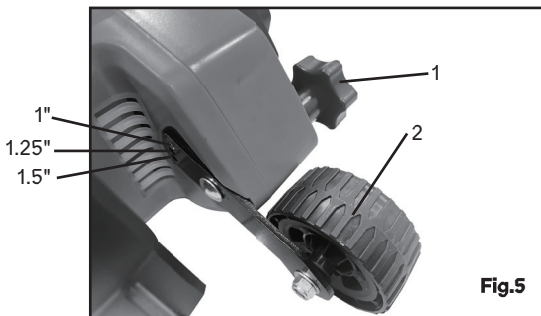

Fig.5
2. Adjust the Cutting Depth: Loosen the cut depth adjustment knob (1) (Fig.5). Move the front wheel (2) (Fig.5) to the desired position by aligning it with one of the three available holes. The position of the hole determines the cutting depth, the lower the hole, the higher the cutting height. The three hole positions correspond to heights of 25.4 mm (1"), 31.75 mm (1.25"), 38 mm (1.5") from high to low.